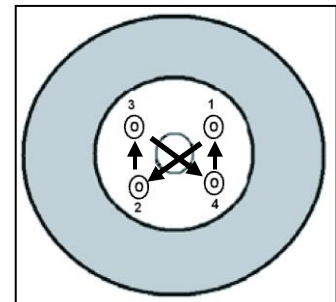

Figure 6.8.3
- Install spare wheel/tire and lug nuts. Tighten nuts in crisscross pattern as shown in Figure 6.8.3 and torque to 65 ft. lbs. (88.1 Nm).